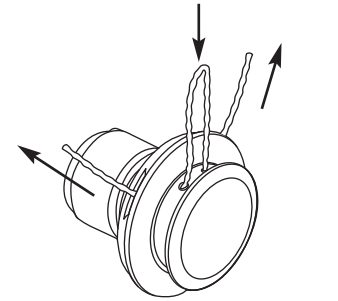

Fig. 12
5. Push and/or pull the line so that the line is snug against the hub and is fully extended through the positioning tunnels (Fig. 12).